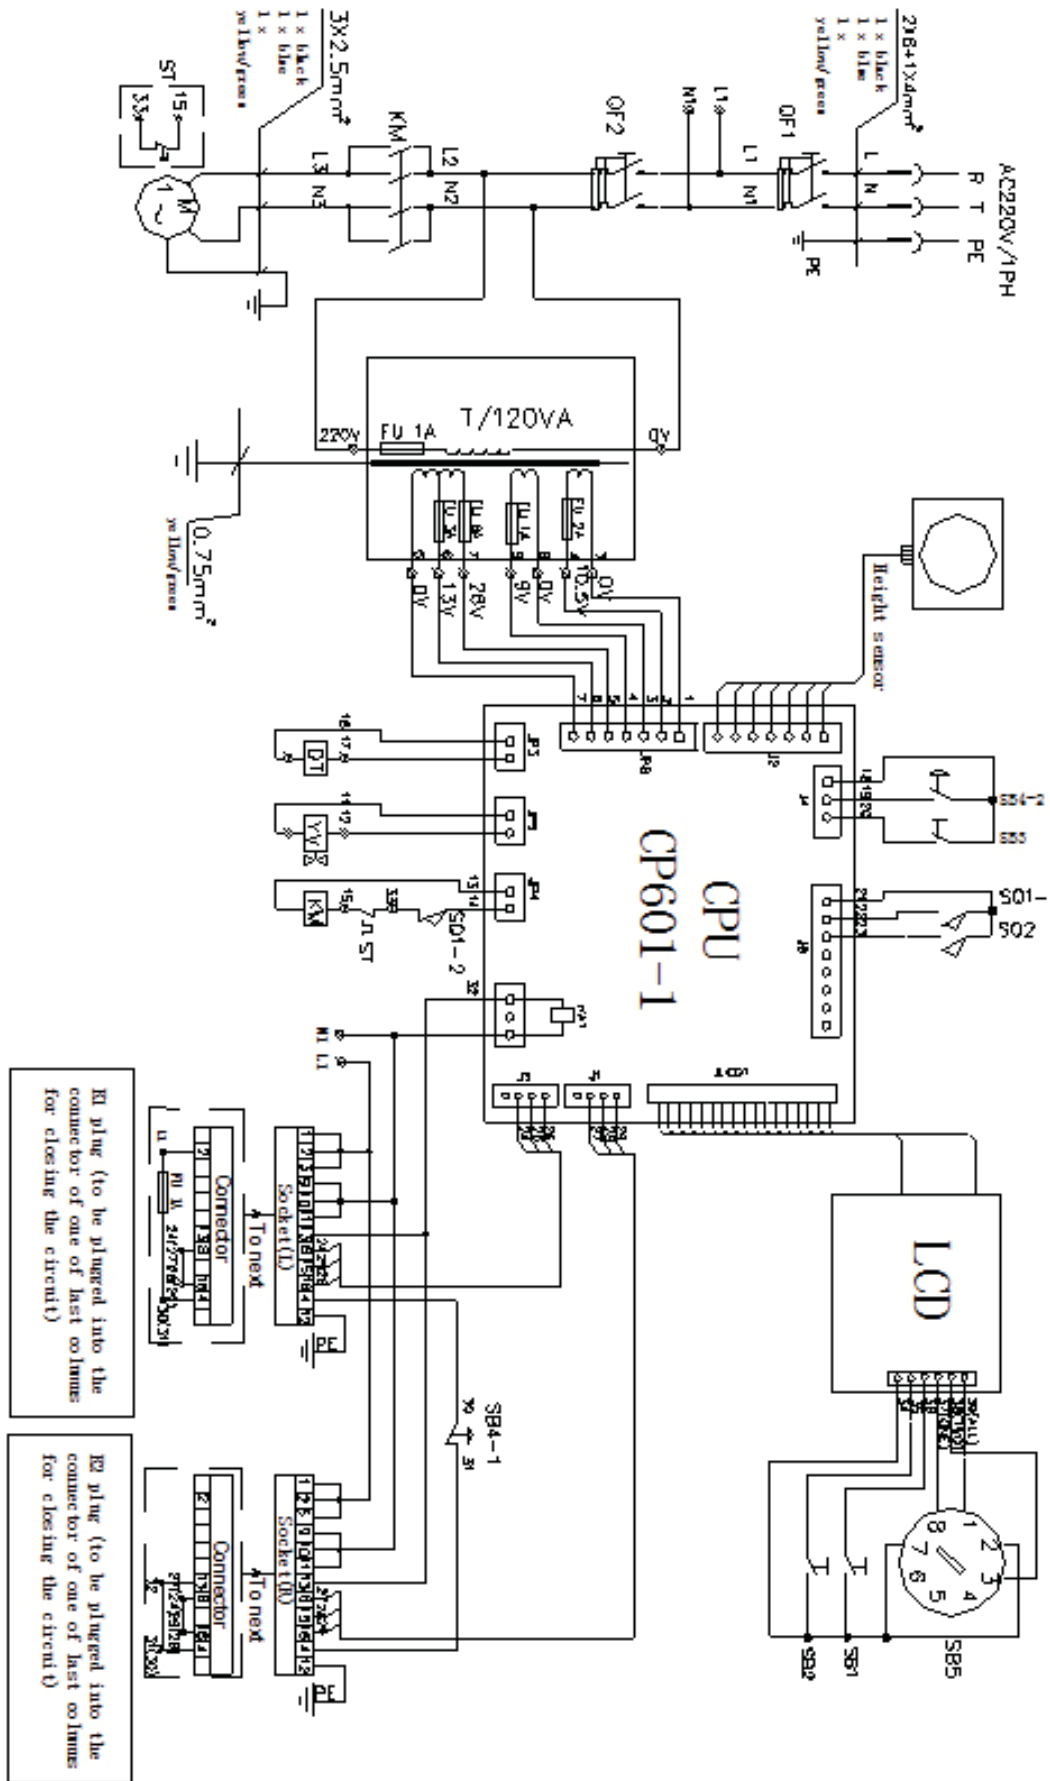

Figure 7 – Electrical Scheme - Master (220V/1Ph)
Motor connection must be carried out referring to the attached wiring diagrams the Fig. 7.
- Check to make sure if all connections are correct referring to the wiring diagram Fig. 7.